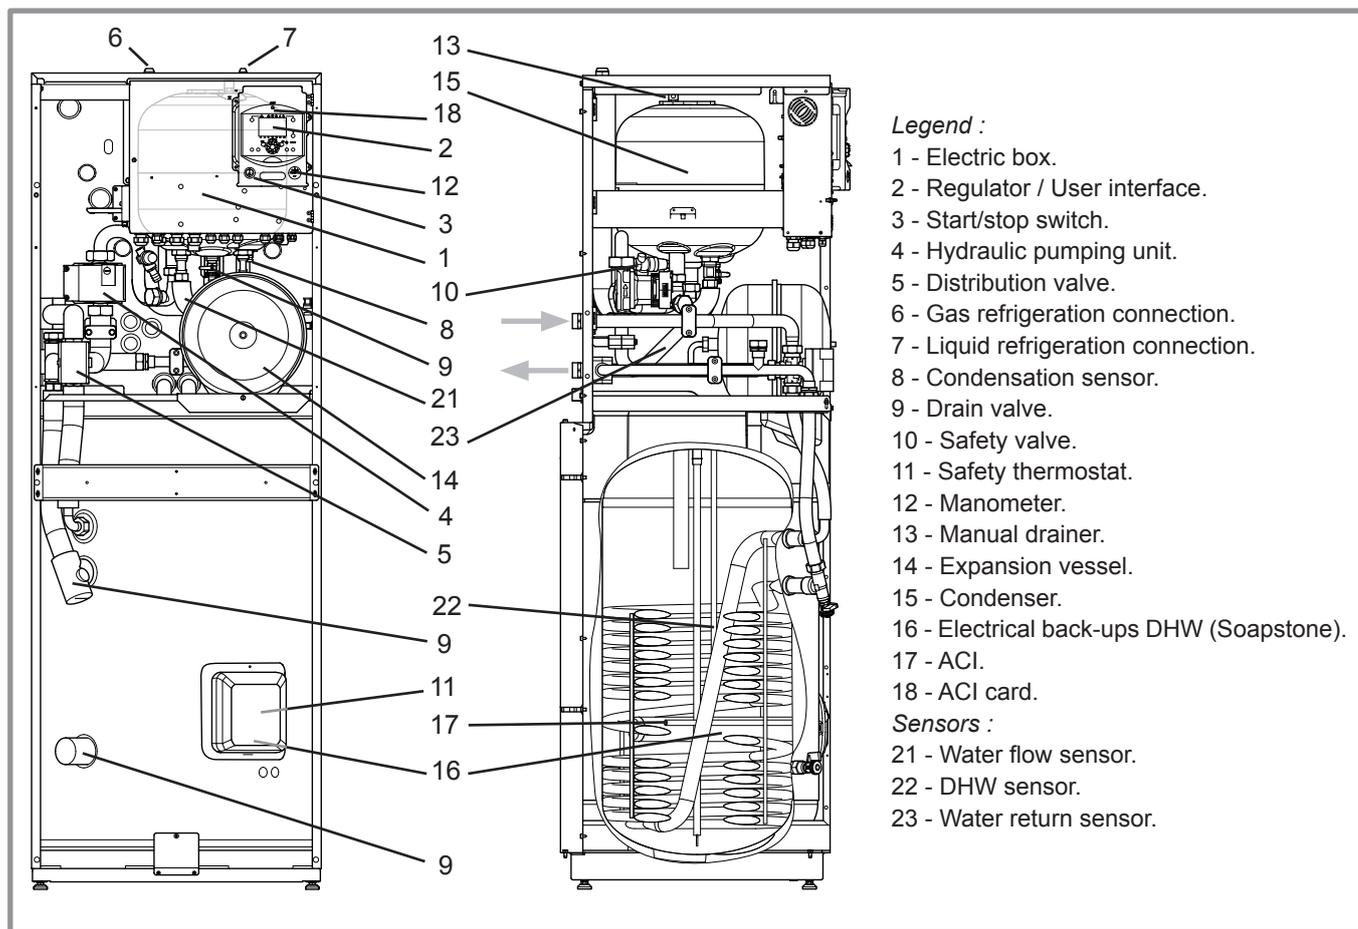

figure 7 - Hydraulic unit components
- In the condenser (ref. **15**, figure 7) :